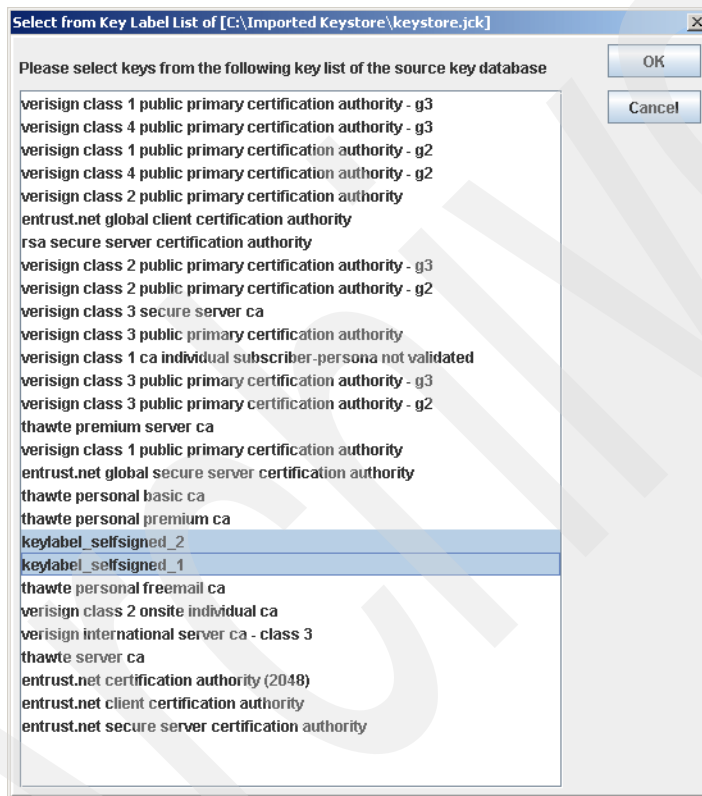

Figure 6-28 Selecting key label
4. The Select from Key Label List window (Figure 6-28) opens, listing the key labels for all of the keys stored in the keystore. Select the key labels you want to import and click **OK**.